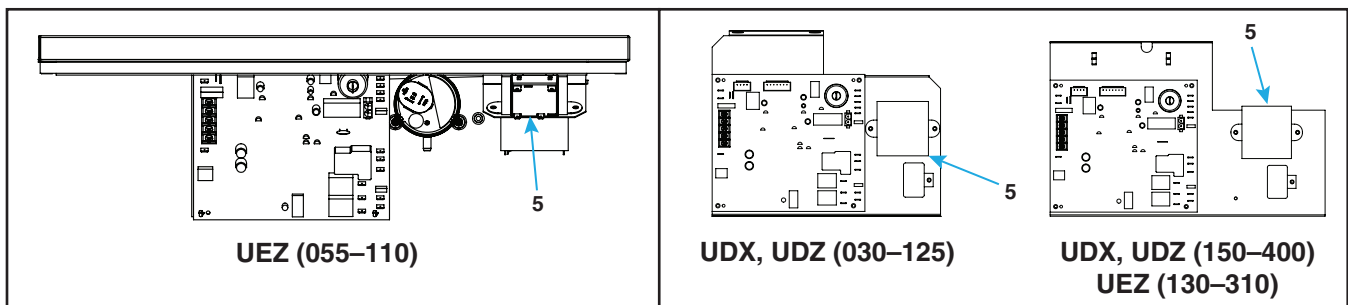
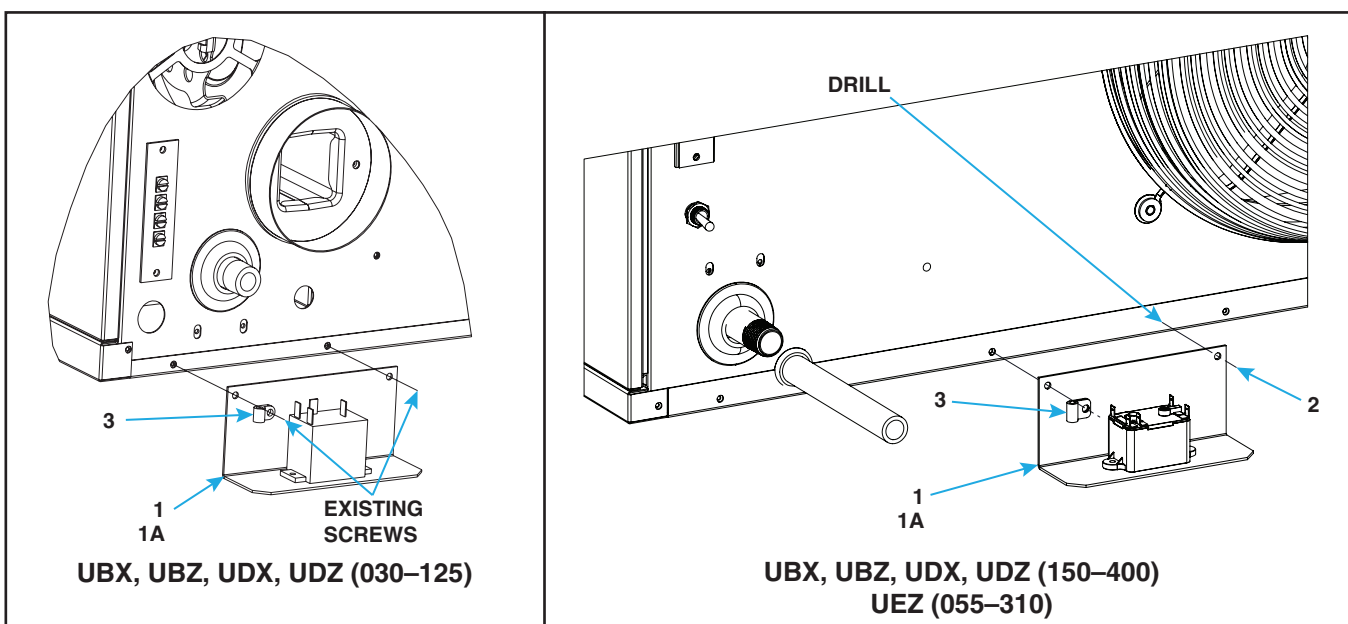

Figure 1. Transformer Location (Refer to Table 2)
Figure 2. Relay Installation (Refer to Table 2)
*See **Figure 1** and **Figure 2**.
- a. Remove or open panel(s) as necessary and locate existing transformer (see Figure 1) mounted at top of control compartment for unit size 055–110 UEZ models or on control board at bottom of control compartment for unit size 130–310 UEZ and all UDX and UDZ models.
- d. Install replacement transformer (5) and secure using existing screws.
3. Install relay assembly on control unit and on all non-control units (see Figure 2):
- b. For model UBX, UBZ, UDX, and UDZ unit sizes 150–400 and all UEZ models, align relay assembly (1) bracket as shown and use bracket as template to drill hole in edge of cabinet bottom as shown.
- c. Secure relay assembly (1 and 1A) and cable clamp (3) as shown using existing screws for model UBX, UBZ, UDX, and UDZ unit sizes 030–125 or one existing screw and one screw (2) from kit for model UBX, UBZ, UDX, and UDZ unit sizes 150–400 and all UEZ models.